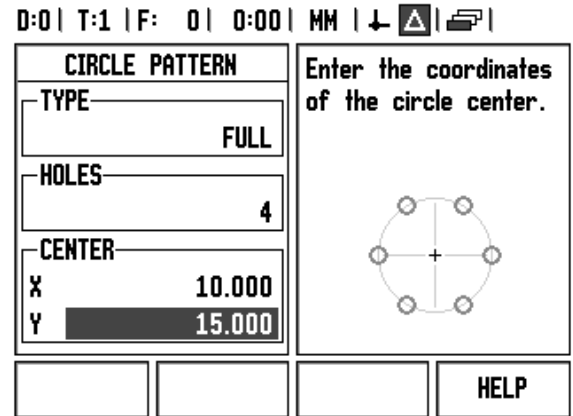
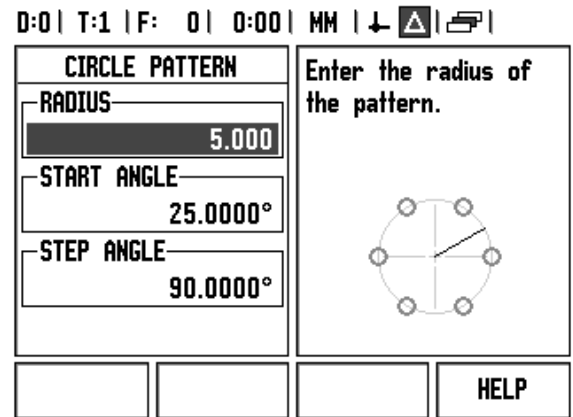
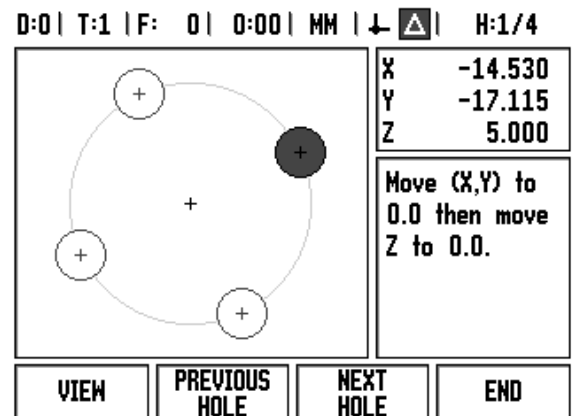

Fig. I.45 Beginning of Circle Pattern form
Fig. I.46 Page 2 of Circle Pattern Form
Fig. I.47 View of Circle Pattern Graphic
**Example: Enter data and execute a circle pattern. See Fig. I.45, Fig. I.46 & Fig. I.47.**